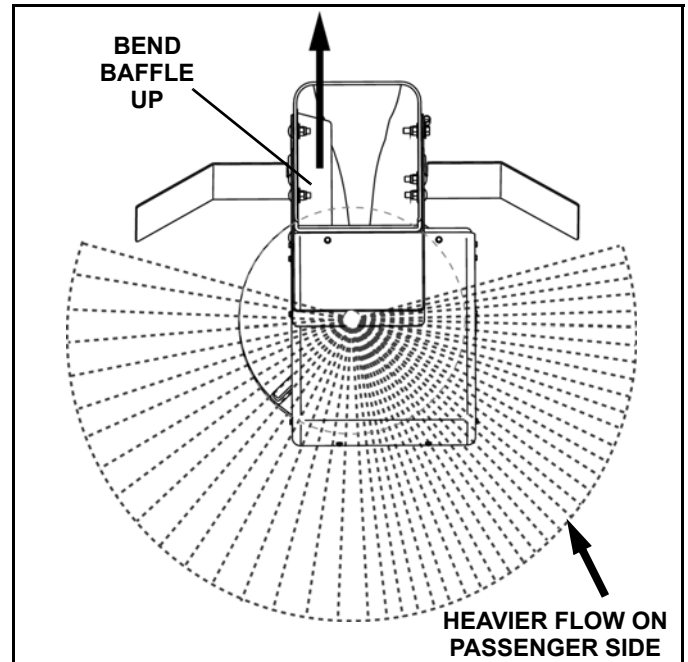

Figure 2-2
- To adjust the flow of the material to the passenger side (PS) of the vehicle, manually bend the internal baffle on the chute assembly in the "UP" position (See Figure 2-2).